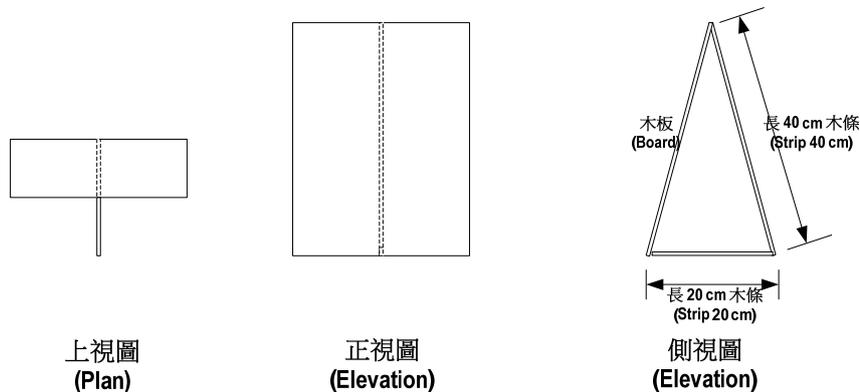

Figure 17. The frame for exhibiting the poster.
- 11.2 Each team should paste the poster on the poster board, which is supported by using a frame. This frame is made of wooden sticks (Figure 17) and is done during the first day of this contest.